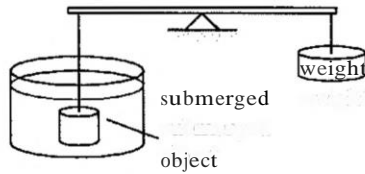

FIGURE P2.7.
7. A brass cylinder (Sp. Gr. = 8.5) has a diameter of 1 in. and a length of 4 in. It is submerged in a liquid of unknown density, as indicated in Figure P2.7. While submerged, the weight of the cylinder is measured as 0.8 lbf. Determine the density of the liquid.